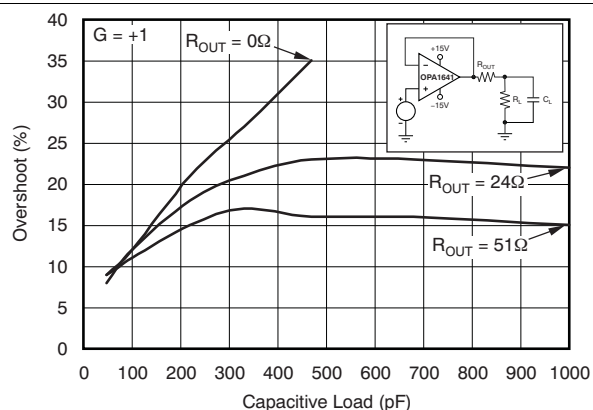
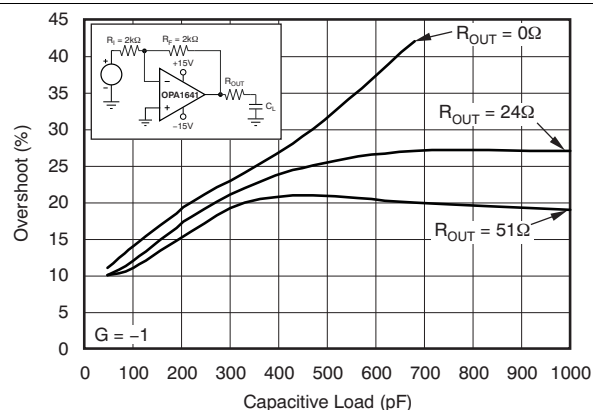

Figure 19. Small-Signal Overshoot vs Capacitive Load (100-mV Output Step)
Figure 20. Small-Signal Overshoot vs Capacitive Load (100-mV Output Step)
(1) Full power bandwidth = $\text{SR} / (2\pi \times V_P)$, where SR = slew rate.
(2) See Figure 19 and Figure 20.